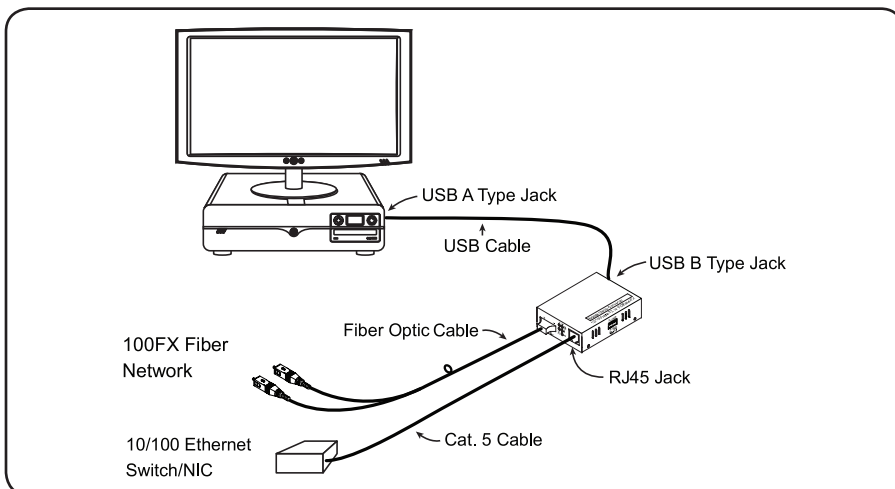

Fig. 1: Media Converter with USB power source (Type B-to-Type A Plug) and FX/TP connection
2. Install the USB cable. Plug the type A connector in the PC's USB port and the type B connector in the Converter's USB port (see Fig. 1).